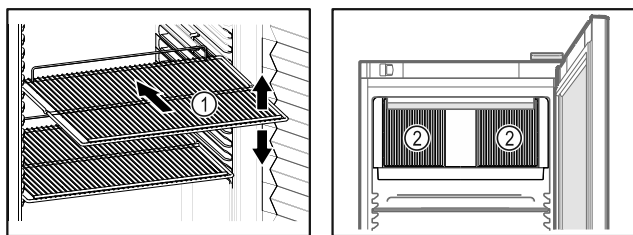

Fig. 78 Example illustration Fig. 79
- If there are adjustable shelves Fig. 78 (1), position them as required.